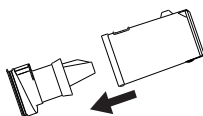

Figure 16
4. Remove the cyclone body from the dust container, as shown in **Figure 16**.